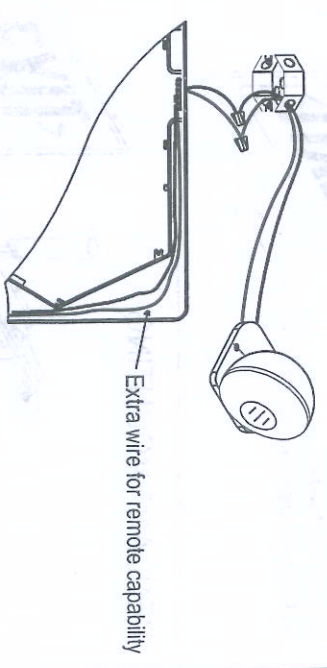

Fig. 8 Wiring for remote capability
1. In order to use additional remote heads (6V 40W Max.), make the proper lead connections with remote head wires at junction box using remote load wires in the sign. (See Fig.8)